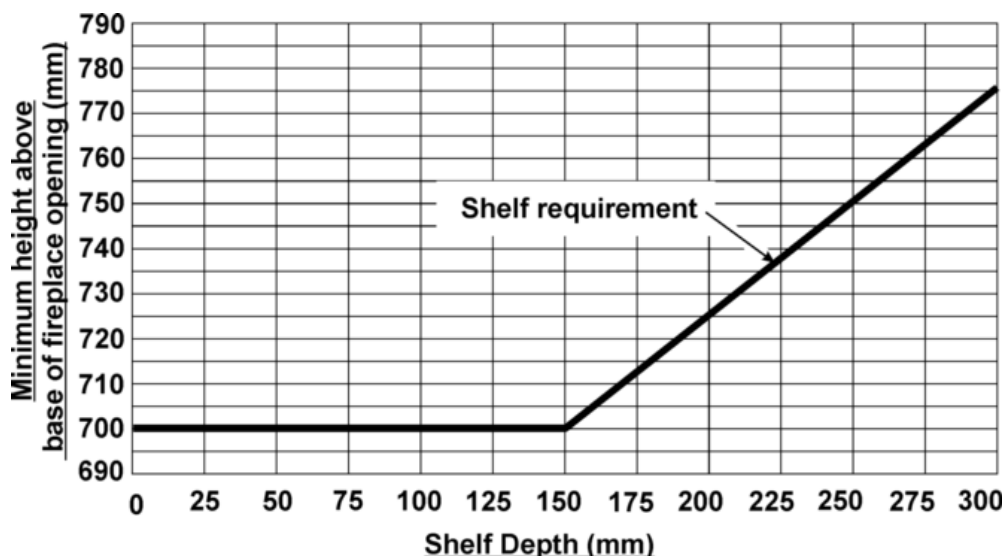

Figure 3. Combustible shelf clearances
- For a shelf deeper than 150mm: 700mm + 12.5mm for every 25mm depth over 150mm (See Figure 3).